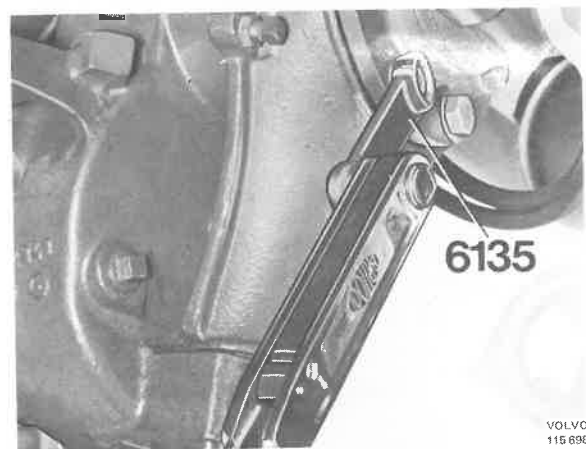

Fig. 46-131. Tighten the bolts
3. Fit the bolts round the casing. Remove the guide pins. Tighten the bolts to a torque of 100-120 Nm (10-12 kpm = 72-87 lbf·ft). Use 6135, see Fig. 46-131. Remove the jack.